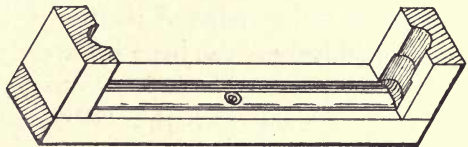

FIG. 88. — SUPPORT FOR GLASS TUBES.
11. **Boring the screw holes and pivot hole.** — The uprights are to be fastened to the crosspiece, as in Fig. 88, with screws from the under side, two screws in each end. In the center of the crosspiece and at the bottom of the groove bore a hole the size of the pivot screw, and countersink.